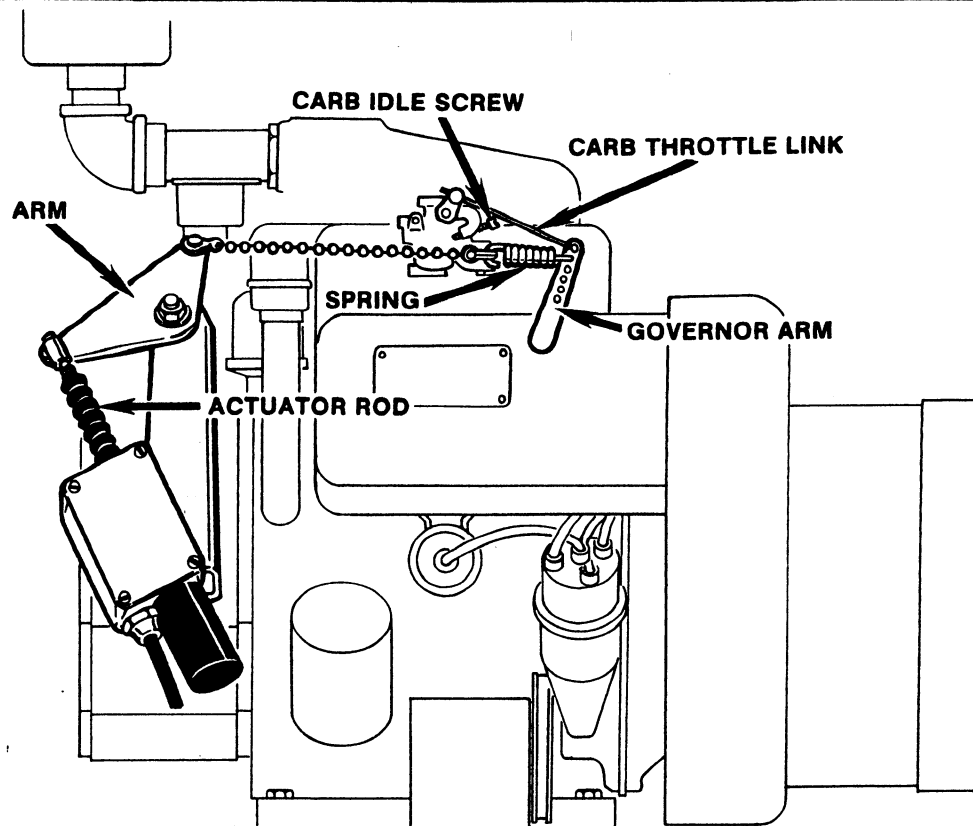

Figure 2-6. Throttle Adjustments (V465D) Typical.
2-10. THROTTLE CHECKS AND ADJUSTMENTS, V465 D. (Figure 2-6, 2-7)
a. Checks. (Refer to Figure 2-6.)
- (1). Check that carburetor throttle link is located at top of governor arm.
- (2). Check that spring is located at first or second springhole from top of governor arm. First hole is preferable. Second hole can be used when trying to stop surging.
b. Adjustments. (Refer to Figures 2-6 and 2-7.)
- (1). Disconnect the actuator rod from the arm. With the aid of an assistant, start the engine from the basket and allow it to come up to operating temperature. Adjust carburetor idle screw until engine runs at 1600 RPM. Shut down engine. Reattach actuator rod to arm making sure that low engine setting remains the same. If necessary, adjust slide pin to contact low engine limit switch at 1600 RPM. Shut down engine.
- (2). With the aid of an assistant, start engine from basket and allow to come up to operating temperature. Disconnect proportional dump valve wire. Activate footswitch. Turn on high engine switch. Hold drive controller in full drive position. Adjust slide pin to contact high engine limit switch at 2400 PRM. Shut off all switches and controllers. Reconnect proportional dump valve wire.
- (3). If the engine hunts or surges in the maximum speed no load condition, shut off engine. Disconnect carburetor throttle link from governor arm. Turn carburetor throttle link (clockwise) one turn. Start engine and activate high engine as in step (2) above. Be sure to disconnect proportional dump valve wire.
- (4). If surging continues, repeat step (3) above. Do not turn carburetor throttle link in any further than necessary or governor performance will be affected.
- (5). When surging is under control, check high engine RPM. If necessary reset to 2400 RPM as in step (2) above. Shut down engine.